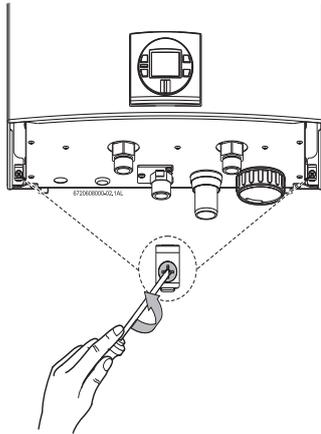

Fig. 3 Loosen the two screws
- ▶ Loosen the two Phillips head screws located on bottom rear of cover (see Fig. 3).